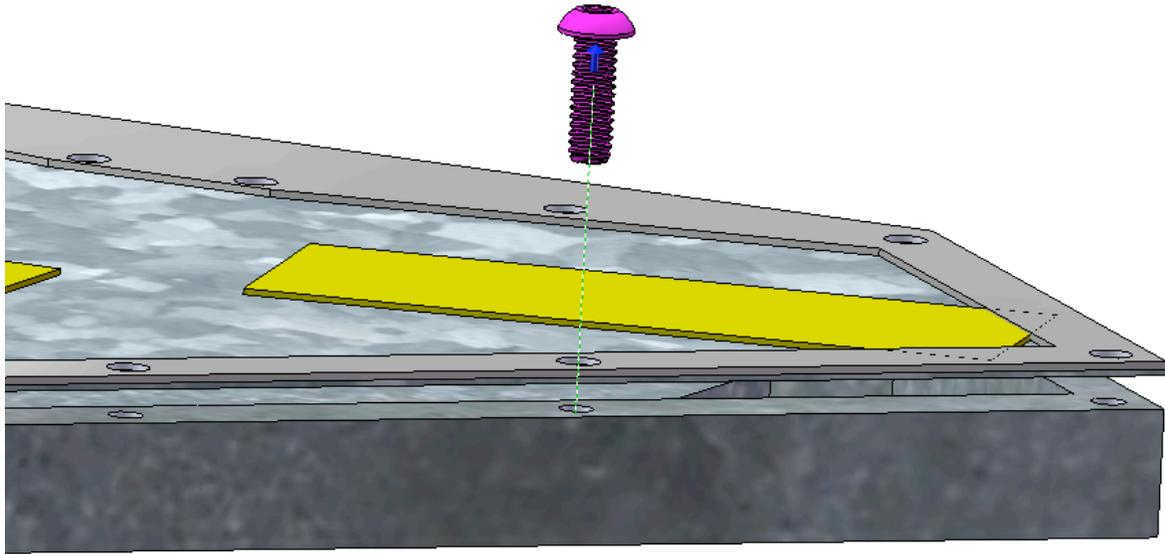
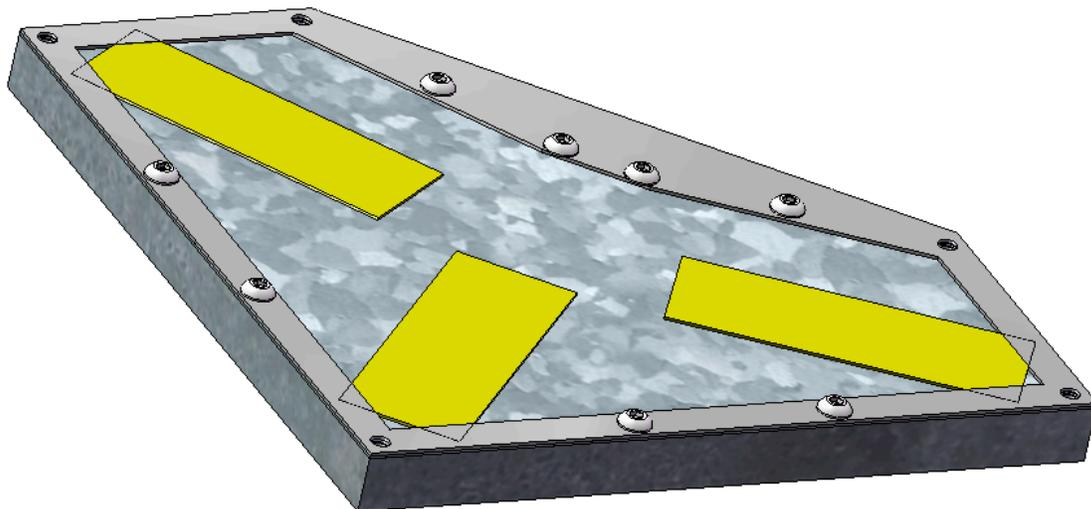

Figure 3-9: Alignment of screw with cover and housing.
Figure 3-10: Correct locations for button head screws.
- 7) Using ¼”-20 button head socket cap screws, screw down the scale model cover to the housing; make sure to only use eight of these screws in the correct inside hole locations. See Figure 3-9 and Figure 3-10.